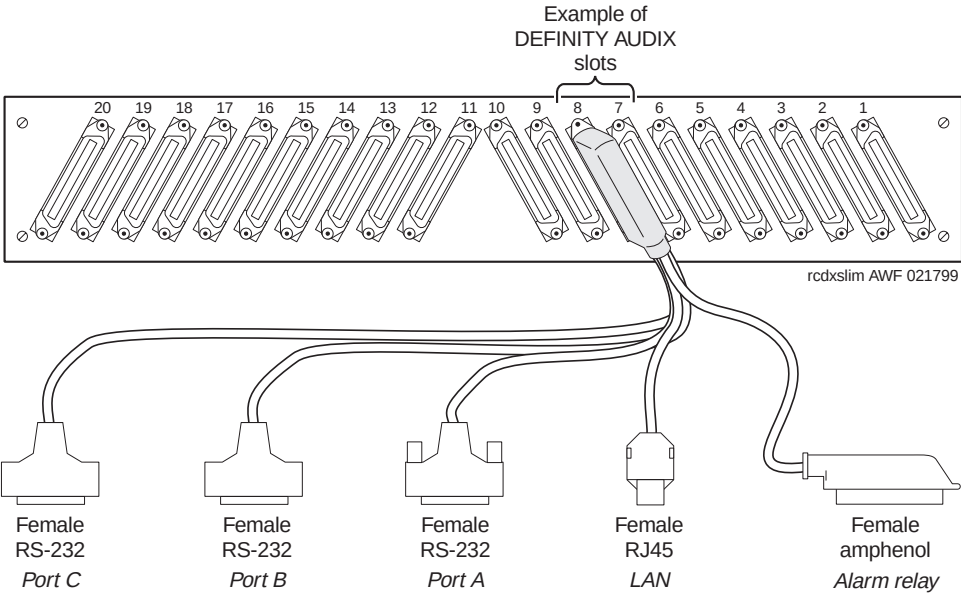

Figure 2-2. Connecting the Adapter Cable, Rear-Panel View
The slots are numbered from left to right on the front panel of the switch cabinet, and from right to left on the rear panel, as shown in Figure 2-2. Facing the front panel, the two port slots are occupied by the DEFINITY AUDIX system assembly as follows:
4. Referring to Figure 2-2, attach the male D-type amphenol connector of the DEFINITY AUDIX system adapter cable to the circuit card slot, that is, the second slot of the two DEFINITY AUDIX system slots.
The system adapter cable has five connectors available for outside connections (Figure 2-2):